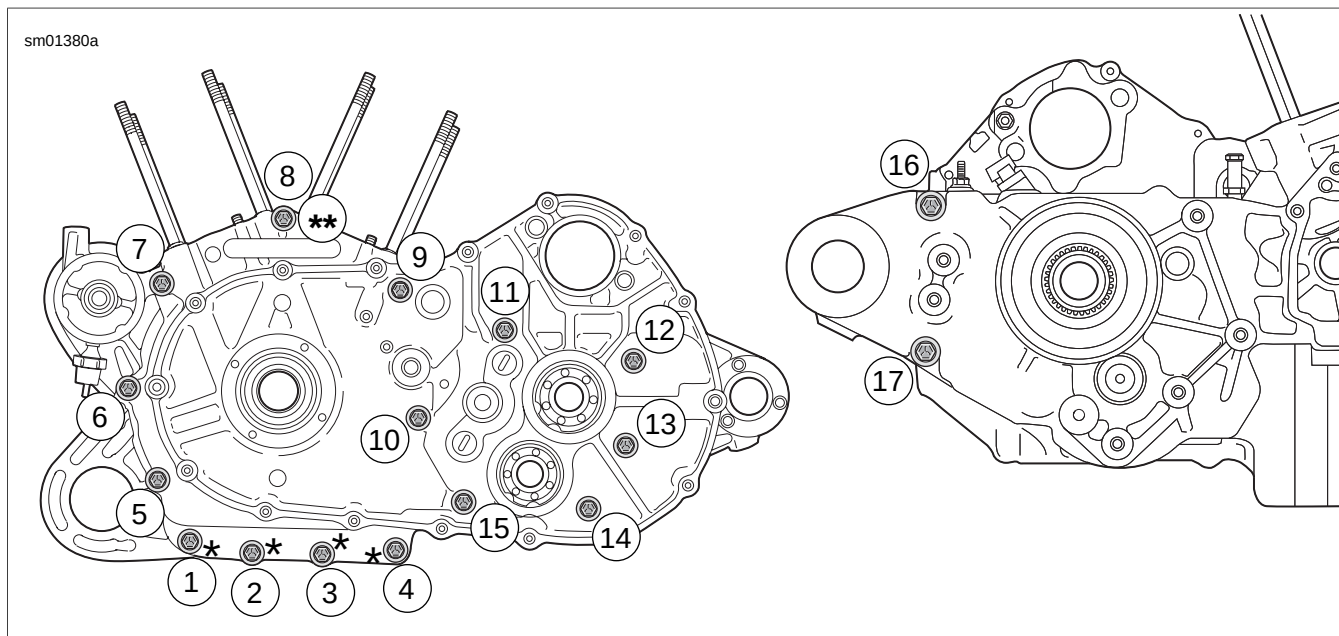

Figure 3-86. Crankcase Fastener Torque Sequence (* - Short Fasteners; ** - Double-ended Bolt: XR Models)
See Figure 3-86. XR models have a double-ended bolt in position 8 used to secure the front cylinder head oil return line.
- e. See Figure 3-86. Apply a few drops of LOCTITE 271 (red) to last few threads of each crankcase fastener and install fasteners (thirteen long and four short) in crankcase assembly, in locations shown.
- f. Tighten fasteners to 15-19 ft-lbs (20.3-25.8 Nm) in the sequence shown in Figure 3-86.